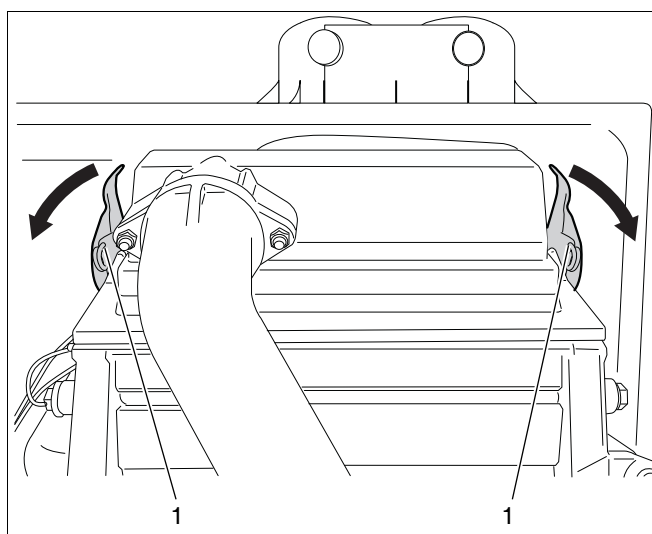

fig. 89 Loosening the retaining clips
- Pull both retaining clips (see fig. 89, pos. 1) on the burner cover to open them and remove the burner cover with the fan unit and the gas control valve.